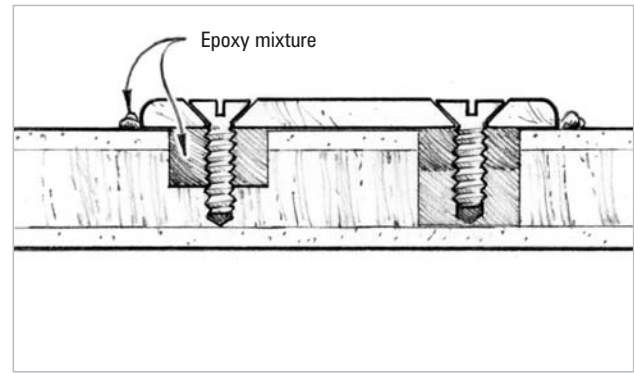

Figure 7-6 Tighten the fasteners until a small amount of epoxy squeezes out of the joint.
8. Place the hardware item in position. Insert and tighten the fasteners until a small amount of epoxy squeezes out of the joint. Do not over tighten (*Figure 7-6*).